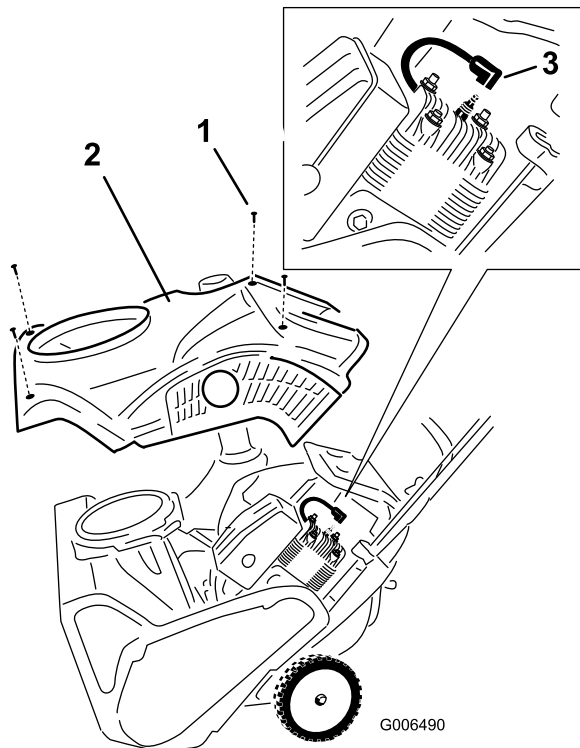

Figure 25
6. Remove the shroud (Figure 25).